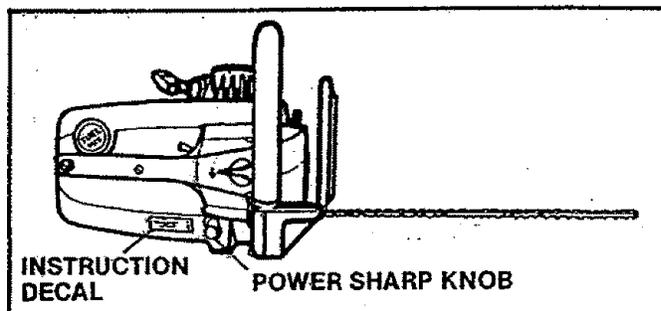

Figure 23
5. Press the Power Sharp Knob down until you feel the sharpening stone lightly contacting the chain. Figure 23.